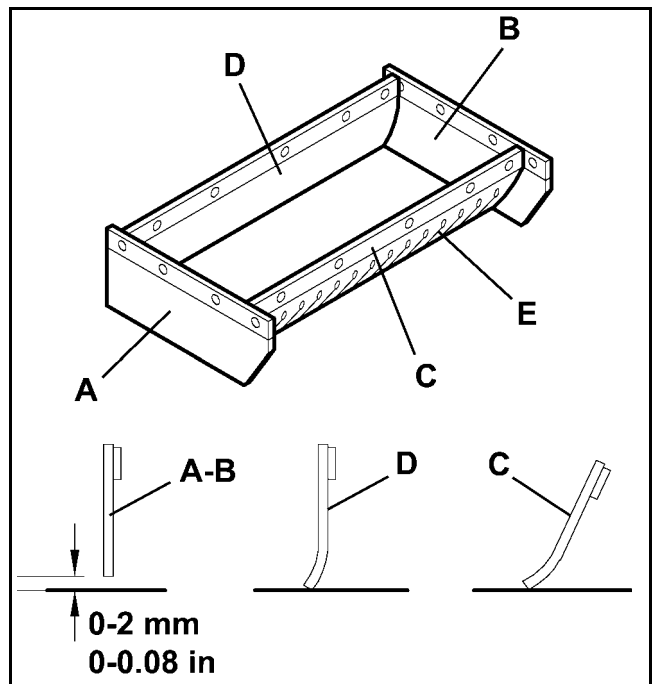

Figure 20
3. Check that the height from the ground of the side skirts (A and B, Fig. 20) is 0 - 0.08 in (0 - 2 mm). Check the skirts for integrity, cuts or tears, which can reduce the machine vacuum capabilities. If necessary replace the side skirts (see the procedure in the Service Manual).
4. Check that the front and rear skirts (C and D, Fig. 20) slightly rub on the ground. Check the skirts for integrity, cuts or tears, which can reduce the machine vacuum capabilities. Note that the front skirt has typical vertical cuts (E). If necessary replace the front and rear skirts (see the procedure in the Service Manual).